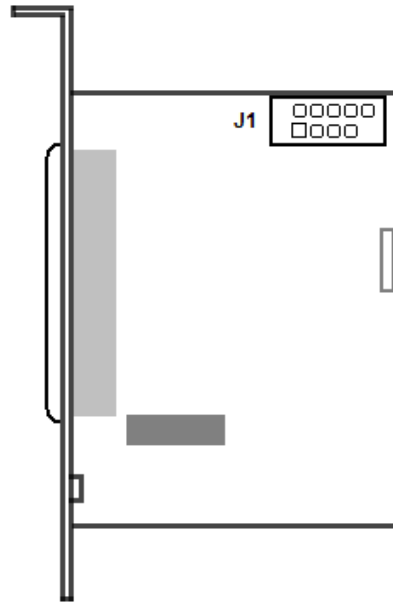

Figure 2.4-17 Connector layout of the MO USBIO 4x4 card
The MO USBIO 4x4 card is an interface of external sensors (DI) and external executive devices (DO) as a part of video surveillance and fire and security alarm systems (Figure 2.4-17).
3. Connect the loop (included in the distribution kit) to the J1 pin and to vacant USB connector on computer motherboard (Figure 2.4-17).